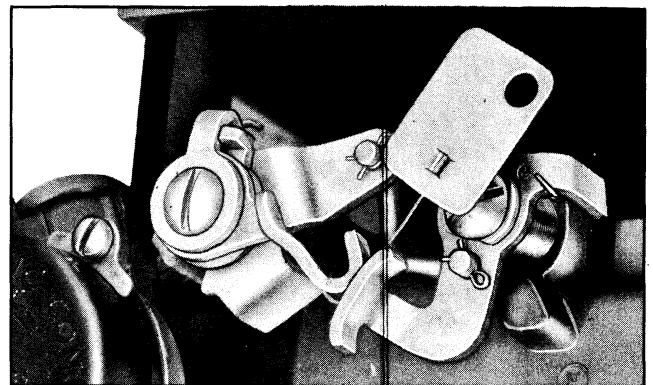

Fig. 6B-96 Checking Secondary Throttle Lever Adjustment
4. There should be .020" clearance between positive closing shoes on primary and secondary throttle levers (Fig. 6B-96) at their closest position.